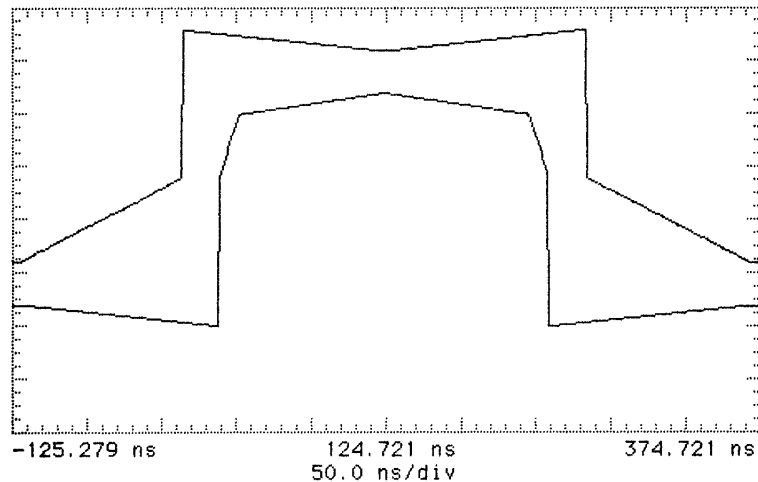
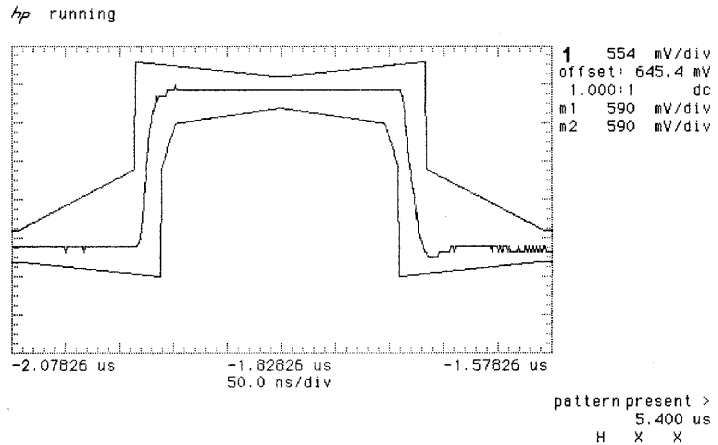

Figure 3-2
Figure 3-3
16. Press SHIFT **AUTOSCALE** on the oscilloscope to automatically align the pulse to the mask in Figure 3-2. Verify that the pulse falls within the mask as shown in Figure 3-3.
If your oscilloscope does not have the Mask feature, obtain a printout of the displayed pulse. Place the mask, shown in Figure 3-2, over the pulse and ensure that the pulse falls within the mask. (A transparent copy of the mask should be used).
20. Adjust the oscilloscope timebase and vertical sensitivity controls to verify that the pulse meets the mask as shown in Figure 3-3. Use the displayed settings as a guide.